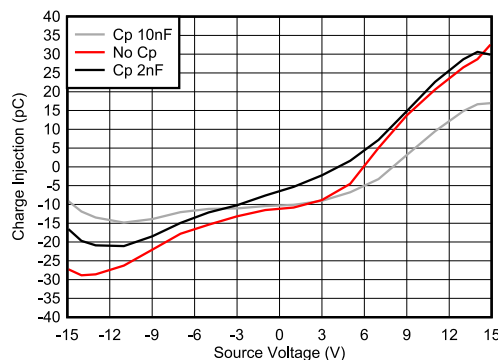

Figure 8-2. Charge Injection Compensation
The TMUX7219 contains specialized architecture to reduce charge injection on the source (Sx). To further reduce charge injection in a sensitive application, a compensation capacitor (Cp) can be added on the drain (D). This will ensure that excess charge from the switch transition will be pushed into the compensation capacitor on the drain (D) instead of the source (Sx). As a general rule, Cp should be 20× larger than the equivalent load capacitance on the source (Sx). Figure 8-2 shows charge injection variation with source voltage with different compensation capacitors on the drain side.